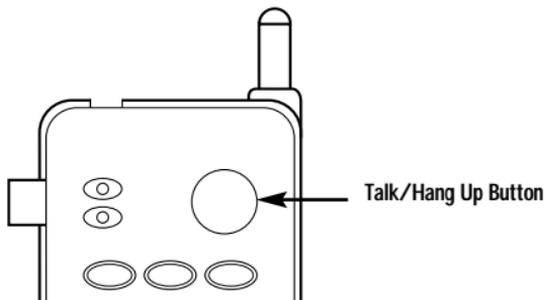

Figure 3-4. Talk/Hang Up button.
3. Push the Talk/Hang Up button. The In Use indicator will light (see Figure 3-4).